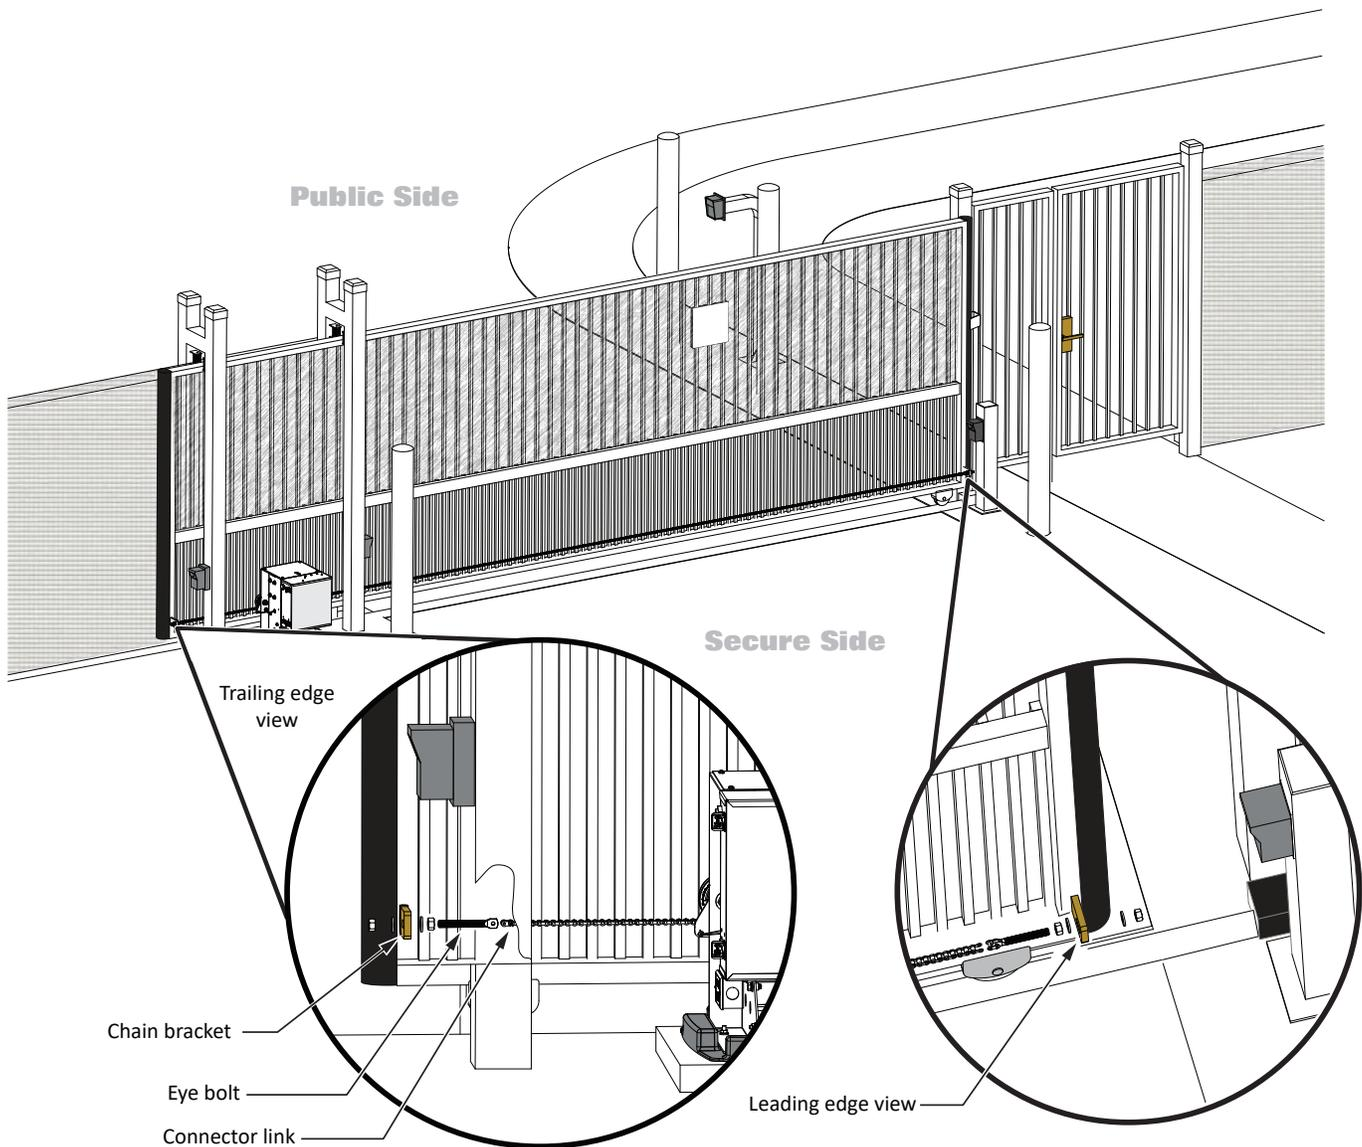
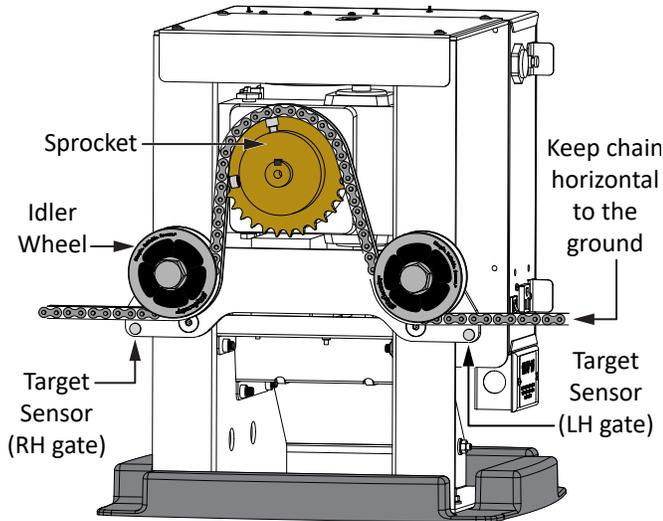

Figure 11. Gate Bracket and Chain Installation
Figure 12. Rear View Chain Installation
2. Measure for proper chain alignment BEFORE welding the brackets to the gate. Make sure the chain will run horizontal to the ground and parallel with the gate. See Figure 11.
3. Weld the chain bracket in two places: leading edge and trailing edge. You may need to cut the length of the bracket to achieve proper chain alignment. Gusset plates are provided and can be welded to the bracket for added support. See Figure 11.
4. Attach the eye bolts to the brackets, and then attach the connector link between the chain and eye bolt. See Figure 11.
5. Feed the chain around the idler wheels and over the sprocket (See Figure 12) and attach the chain to the bracket on the opposite end of the gate. Make sure the chain is horizontal to the ground and parallel to the gate. See Figure 11.
6. Adjust the nuts on the eye bolt to tighten the chain (minimize sag, but avoid overtightening). Chain sag should not exceed 3 inches (76mm) from its anchor point. See Figure 11.
1. For a front installation, feed the chain over the sprocket and beneath the idler wheels. See Figure 12.